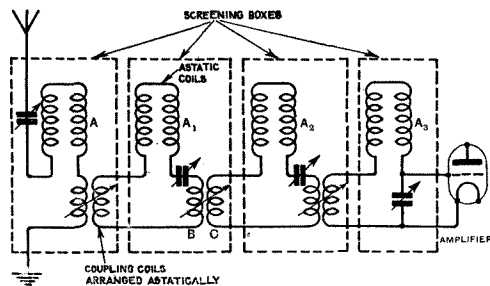
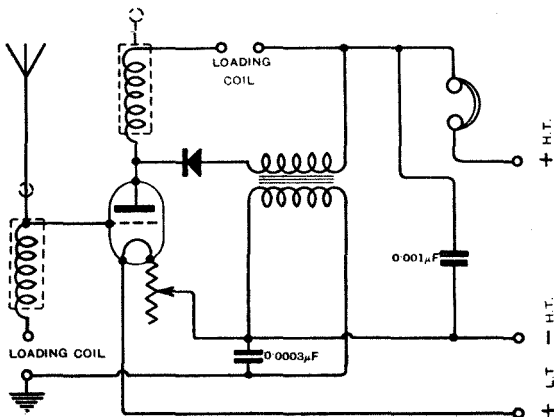

Fig. 4. To minimise capacity coupling, only a portion of the coils between which a low potential difference exists is shown coupled.
Fig. 1. A reflex circuit is employed and tuning is effected by the inductance change produced when a copper cylinder covers the windings of the tuning coils.
one plate of a condenser and the aerial wire the other. This condenser and the loading inductance constitutes an oscillatory circuit. When the current is oscillating in the aerial, the earthed end is substantially at a constant potential, but there is a difference in potential between earth and any point on the aerial. If an alternating difference in potential exists between two parts of the same or different electric circuits, there is a condenser action brought into play. That is to say, there is a capacity effect between the two portions of the circuit, which causes a current to flow. Consider now an aerial whose circuit is similar to that of A in Fig. 1, but whose lower end is not earthed. This will receive signals and a current will flow, but the intensity will be small compared with that when the lower end is earthed. The reason why an unearthed aerial constitutes an oscillatory circuit is simply that the loading coil and the aerial have a capacity to earth, *i.e.*, the coil represents one plate of a condenser and the earth the other. There is also the action of the assemblage as an isolated oscillator (see below). The strength of the received signals is most marked on short wavelengths. The effect is somewhat similar to that when a small shortening condenser is placed between the loading coil and earth, and may be designated "antenna" action. The
We have already indicated that an alternating difference in potential between two parts of an electric circuit involves condenser action. The next step is to apply this principle to the receiving circuit illustrated in Fig. 1. Suppose we devote our attention to the aerial tuning inductance first. During reception there is a difference of potential between its ends.
Taking now the coupling which exists between the coils A and A₁ of Fig. 1. The adjacent parts of these coils during reception will be at different potentials owing to the currents in the two circuits. Thus there will be condenser action and energy will be supplied from circuit A to circuit A₁ just as though the two were connected by a condenser. An approximately equivalent circuit is shown in Fig. 3. Owing to the capacity effect of coil A₁ to earth, there is a complete
with increase in (a) frequency; (b) capacity; (c) voltage or potential difference. From (a) we see that with given coils the condenser effect is most conspicuous on short waves. A good example of condenser effect is that between two adjacent aerials. The capacity coupling is large owing to the geometrical configuration of the structures allowing a copious inter-linkage of *electric* strain lines. In practice the only item likely to be fixed is the frequency. Thus to minimise condenser effect at a given frequency, it is essential to reduce the capacity and also the difference in alternating potential which exists between adjacent parts of the circuit as much as possible. So far as capacity between adjacent coils is involved, it is the best policy to avoid using the main portion of the coil for coupling purposes. Coupling can be obtained most conveniently by small auxiliary coils in series with the main coils. This is illustrated diagrammatically in Fig. 4, the auxiliary
coils being B and C. Although we have illustrated the use of two small coupling coils in Fig. 4, quite satisfactory results can be obtained with only one coil, *e.g.*, B, this being coupled to the main coil of the next circuit, thus dispensing with coil C. The reduction of potential difference effects is best obtained when all the coupling coils are kept as near to earth potential as practicable. Thus in Fig. 4 the aerial coupling coil is situated next to earth. The complete aerial system as shown roughly in Fig. 1 has been rearranged in Fig. 4. The result of the rearrangement as exhibited in Fig. 4 is to reduce very appreciably (1) direct reception of electric space waves by any portion of the circuit except the aerial; (2) electromagnetic interaction between the units of the receiver, excepting that which exists in virtue of the inter-coupling coils; (3) condenser action between the units of the receiver.
It is of interest to compare the tuning properties of the circuits in Figs. 1 and 4. Suppose all the circuits of Fig. 1 are accurately tuned to the incoming signals; then let the condenser in circuit A_2 be varied. As we pass away from the tune point, the signals will fade fairly rapidly at first, but as we get farther from this point, there is little variation in the signal strength. Thus there is a "residue" which is due to energy penetrating the system in the unorthodox ways which have been quoted above. Let us turn now to an arrangement constituted on the lines of Fig. 4. Assuming all the circuits to be at their resonance or tuning points, again vary condenser in circuit A_2 . The signals will fade very rapidly at first, and will gradually die away to inaudibility as the condenser is moved farther away from the tuning point. This clearly shows the advantages and the absolute necessity for designing a receiving circuit to function in a proper manner.
THIS coil holder was the result of an attempt to construct a simple and inexpensive coil holder which would permit of fine coupling adjustments. As may be seen from Fig. 1, the three-coil holder consists of a base carrying a fixed holder and two movable holders.
Reference to the circuit diagram, Fig. 1, will show the receiver to consist of an aerial tuning inductance which is not variable as